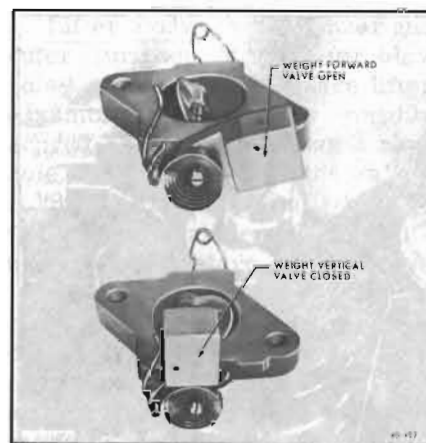

Figure 60-112—Manifold Heat Control Valve
3. Check all anti-rattle and thermostat springs for correct installation. See Figure 60-112.